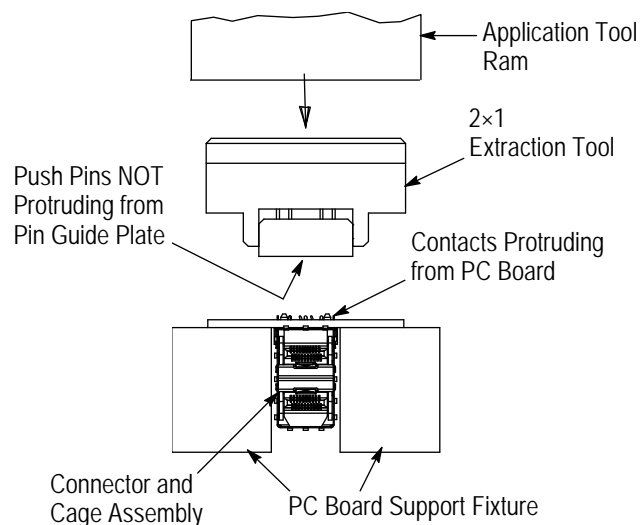

Figure 2
4.1. Contacts Protruding from PC Board (Figure 2)